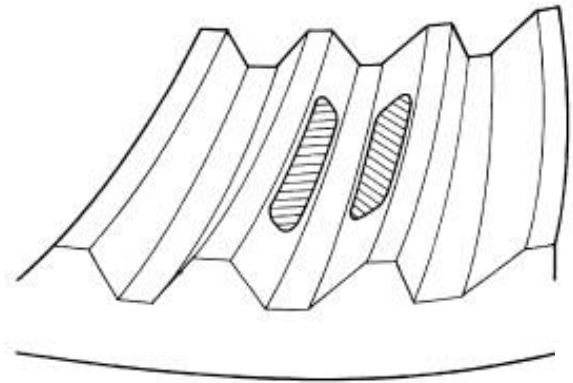

Figure 37
- The gear contact pattern is correct. Backlash and pinion depth is correct (Figure 37).